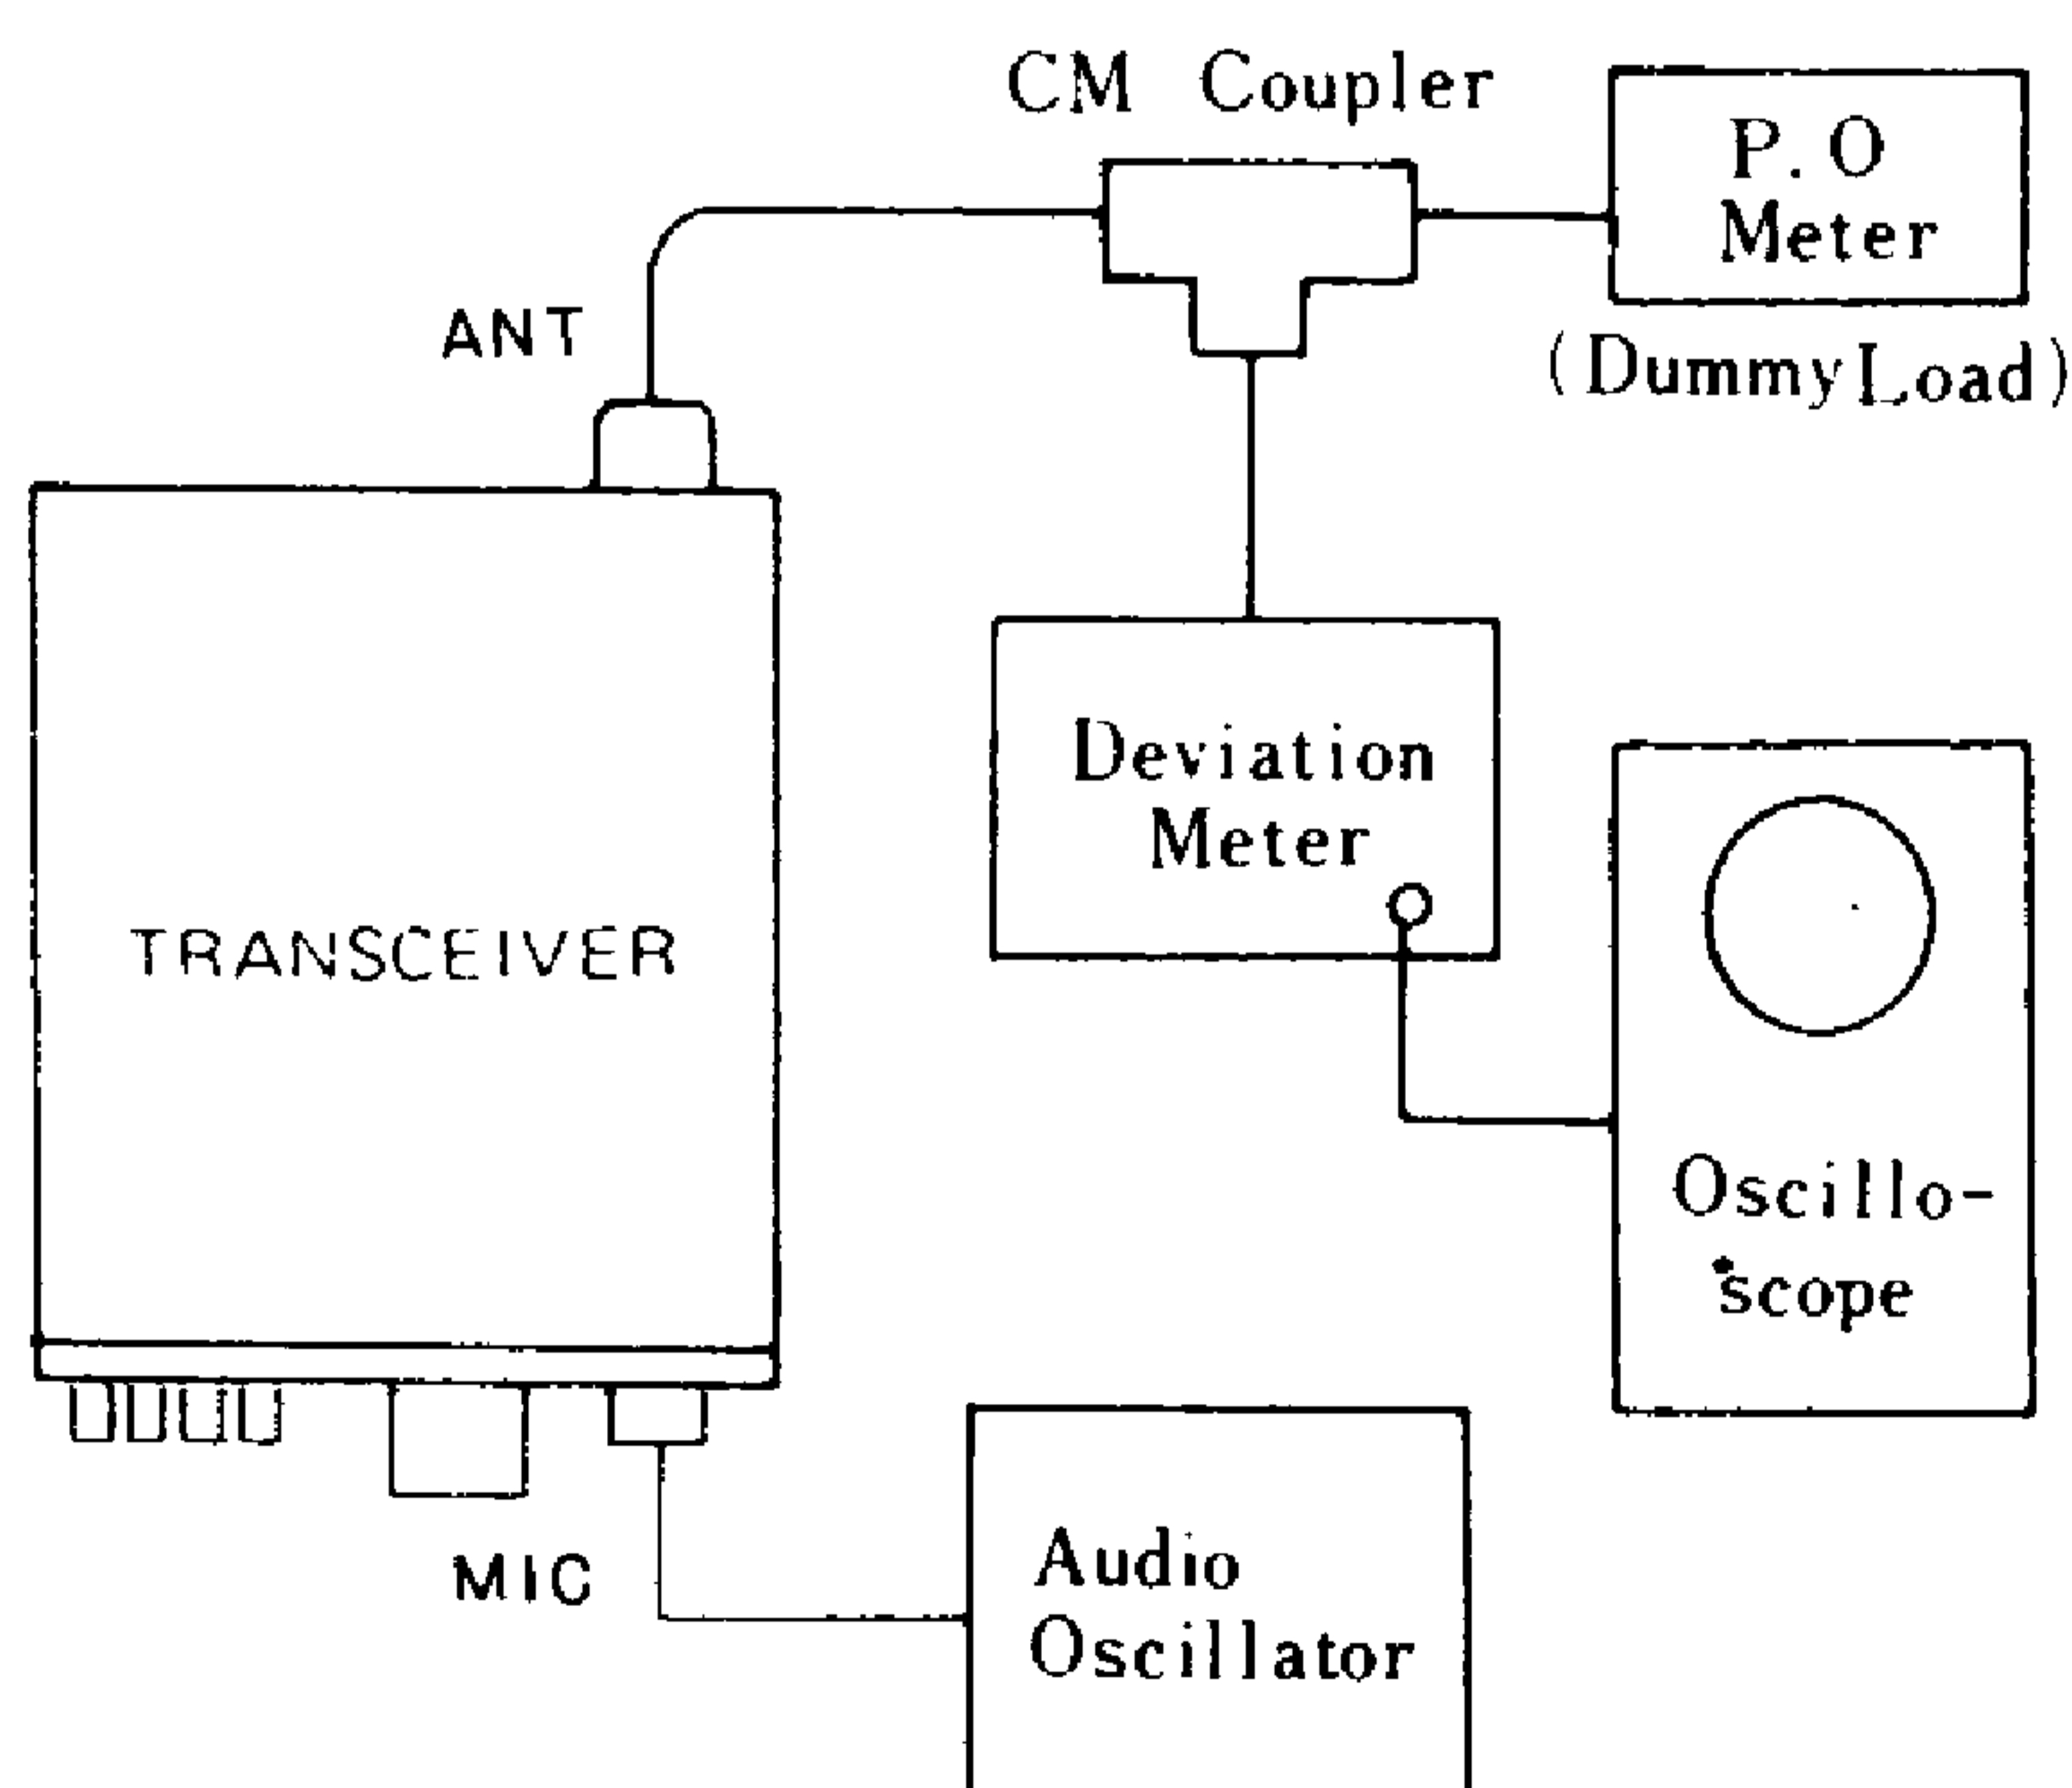

Figure 3
(6) Low Power Output Setting
(7) FM Modulator Adjustment
- a) Refer to Fig. 3, and set up the transceiver and test equipment as shown.